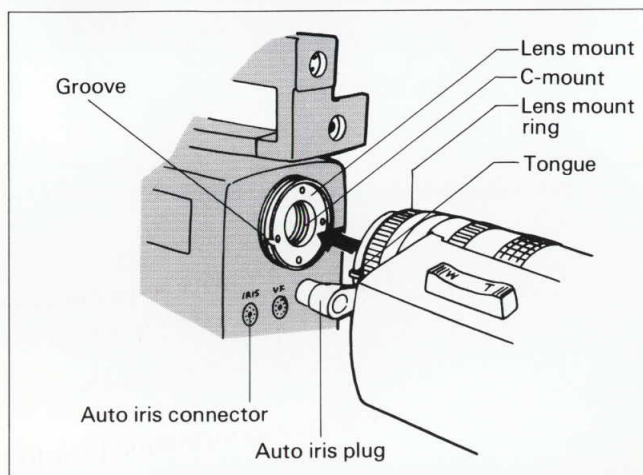

Fig. 8-1 Lens installation
- (1) Remove and replace the lens as shown in **Fig. 8-1**.
- (2) After removing the lens, put dust caps on both the camera body and lens to protect the tube and lens.
- (3) When mounting, align the tongue and groove of the lens and camera body and secure the lens mount ring (clockwise). Ensure that the lens is secured tightly.